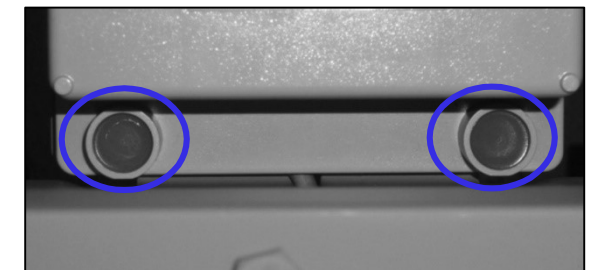

Figure 33: Attach top AMR mounting bracket screws
10. After all hardware is tightened, install the red tamper seals (supplied) on the Endpoint Module as shown in Figure 33.